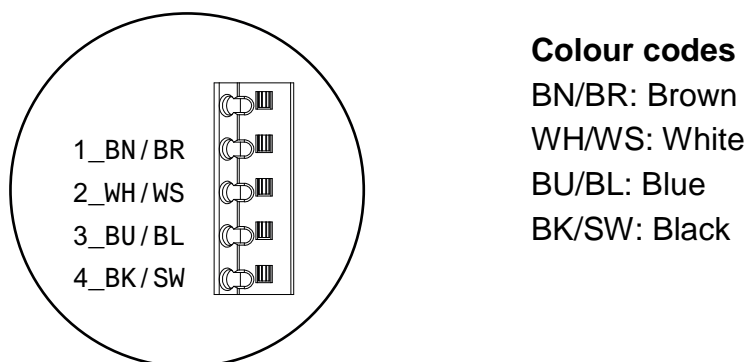

Figure 2: Connection of the remote display housing
3. The cable may be shortened to on-site requirements. Colour codes on the terminals indicate which wire should be connected to which terminal (see Figure 2).